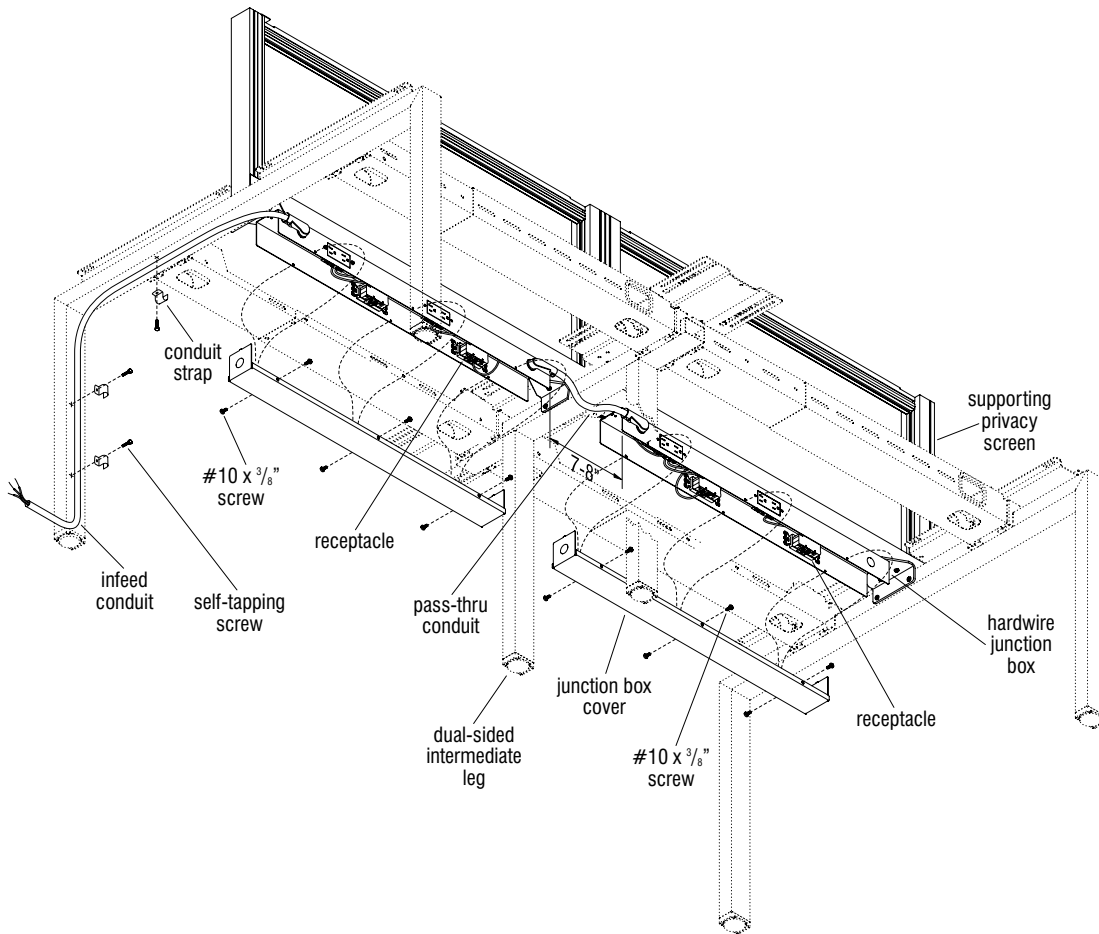

Figure 38
8. Secure the covers to the hardwire junction boxes using #10 x 3/8" screws at all required locations per box as illustrated (Figure 38).
**Note:** Three conduit straps are recommended to secure the flexible conduit to a dual-sided end leg. One may be installed under the leg on the horizontal member, and two are to be used on the vertical inside of the leg (Figure 38).
9. Position the flexible conduit (customer supplied) under the horizontal of the leg at an ideal location, place a conduit strap (customer supplied) into position and mark the mounting hole location. Do the same for the two mounting locations on the inside of the vertical leg member (Figure 38).
10. Position the flexible conduit and conduit straps out of the way. Use a hammer and punch to mark the mounting locations, then drill pilot holes using an appropriate size drill bit at each marked location (Figure 38).
11. Position the conduit straps over the flexible conduit and secure each to the leg using customer supplied self-tapping screws at the pre-drilled locations. Be careful to not over-tighten (Figure 38).